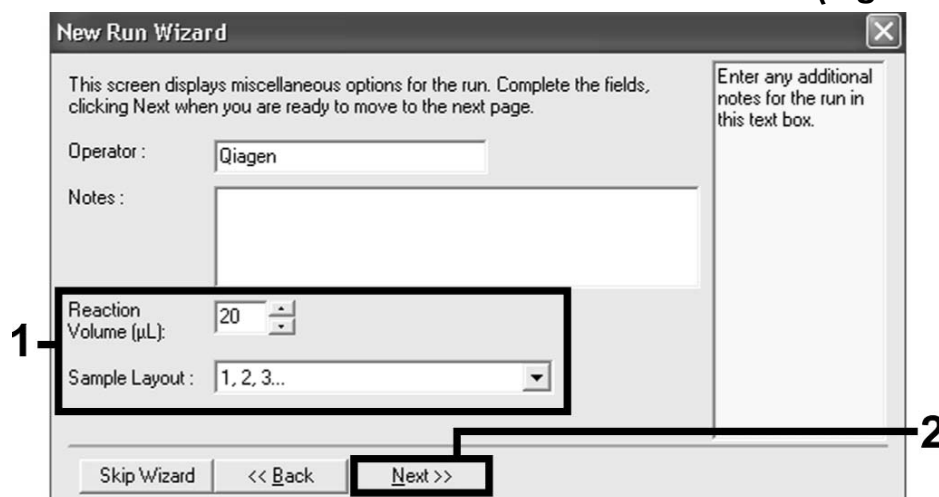

Figure 2. Setting the general assay parameters.
7. **Select 20 for the PCR reaction volume and click “Next” (Figure 2).**